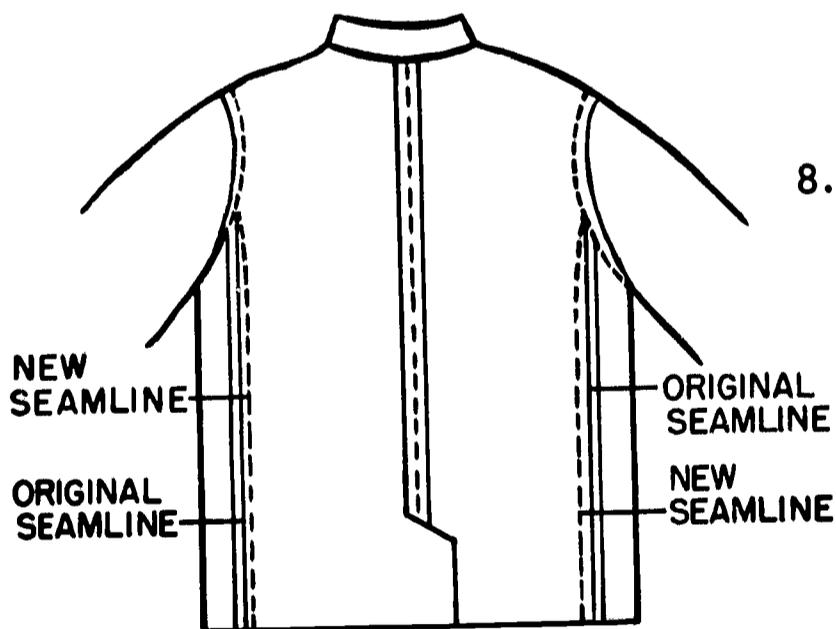

Figure 55.
8. The same amount will be taken out of each side back seam that was taken out of the center back. Again, the total amount will be divided in half before marking the new seamline. For example, the new seam will be 1/4 inch from the original seamline if 1/2 inch needs to be taken out of the coat back. Taper the seam sharply from nothing at the armhole to the amount to be taken out (see Figure 55).